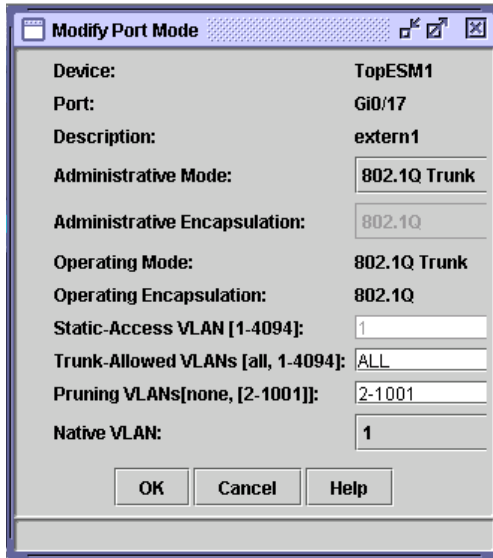

Figure 5-21 Port pop-up menu: VLAN
- ▶ VLAN (Figure 5-21 on page 38)